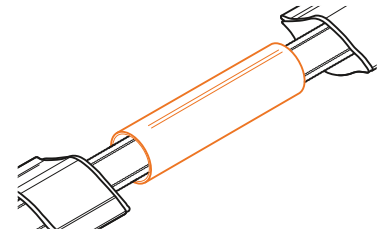

Fig. B11.1.5
5. Remove protection foil from the sleeve (Fig. B11.1.5). Slide the Heat Shrink Sleeve over the joint area, aligning it with the previously marked lines from step 3.